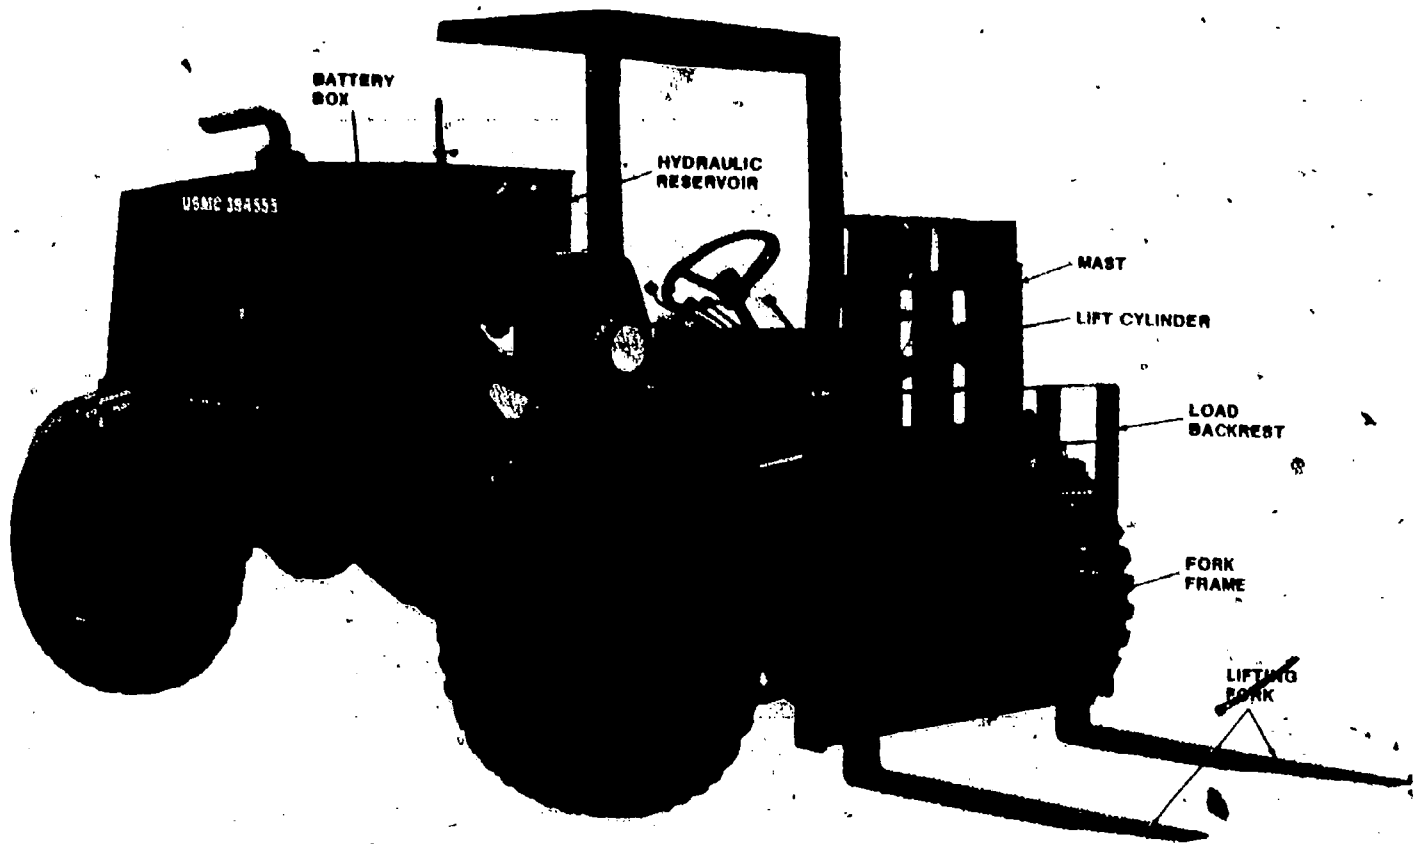

Fig 1-14. Case MC 4000[®] forklift.
- (1) Forklift, Case MC 4000 (fig 1-14). This forklift is a rubber-tired forklift designed for handling, transporting, and stacking gear on various types of terrain. It is powered by a 3-cylinder, 2-stroke-cycle diesel engine. It has a lifting capacity of 4000 pounds and can lift up to a height of 68".